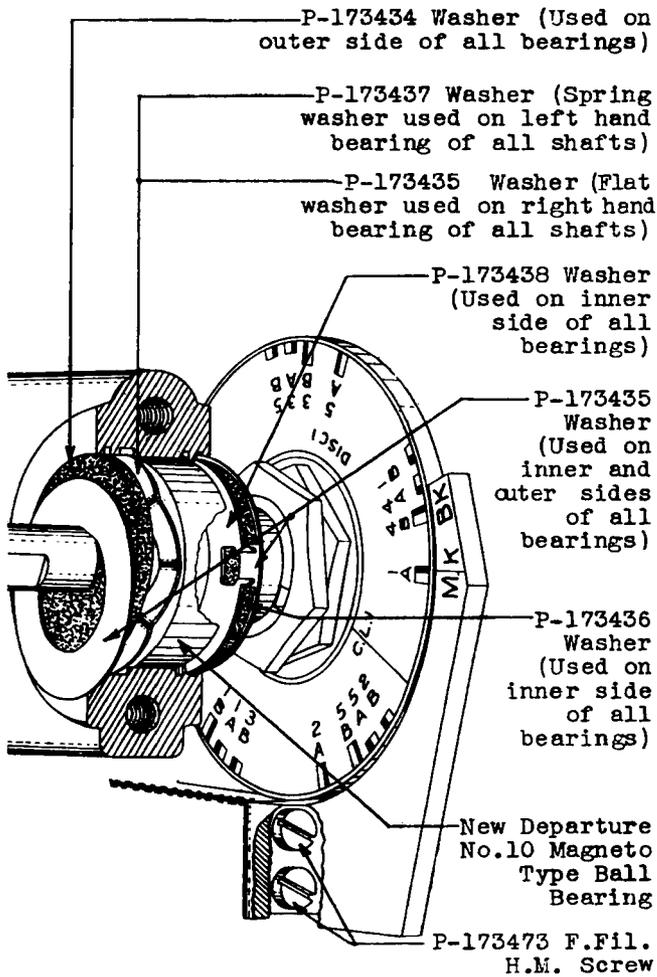

Fig. 5 - Bearing Parts (Nos. 168B, 170A and 171A Interrupters)
P-290128 (Lower Assembly)	P-173460 Nut (Clamping Nut) (4) P-173420 Disc (Indicating Disc) †P-173461 Collar (Spacing Collar) ±P-173340 Cam (No. 1 Cam) Through P-173349 Cam (No. 10 Cam) P-173261 Shaft P-173296 Key ΔBall Bearings (2) — See Fig. 5
P-290131 (Upper Right Assembly)	P-173460 Nut (Clamping Nut) (4) P-173417 Disc (Indicating Disc) †P-173461 Collar (Spacing Collar) ±P-173353 Cam (No. 4 Cam) Through P-173365 Cam (No. 16 Cam) P-173263 Shaft P-173298 Key ΔBall Bearings (2) — See Fig. 5
P-290132 (Lower Assembly)	P-173460 Nut (Clamping Nut) (4) P-173418 Disc (Indicating Disc) †P-173461 Collar (Spacing Collar) ±P-173366 Cam (No. 17 Cam) Through P-173383 Cam (No. 34 Cam) P-173262 Shaft P-173299 Key ΔBall Bearings (2) — See Fig. 5